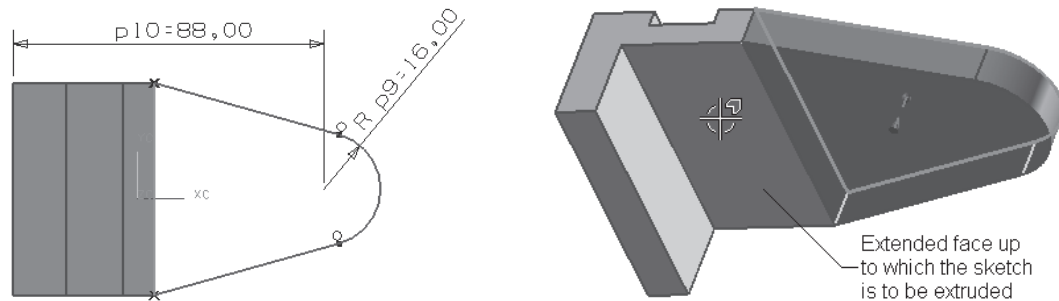

Figure 4-80 Sketch for the second feature
- b. Create the second feature with the **Unite** operation using the sketch drawn on the top face of the base feature, refer to Figures 4-80 and 4-81.
2. Draw the sketch for the feature and add the required dimensions and constraints, as shown in Figure 4-80.